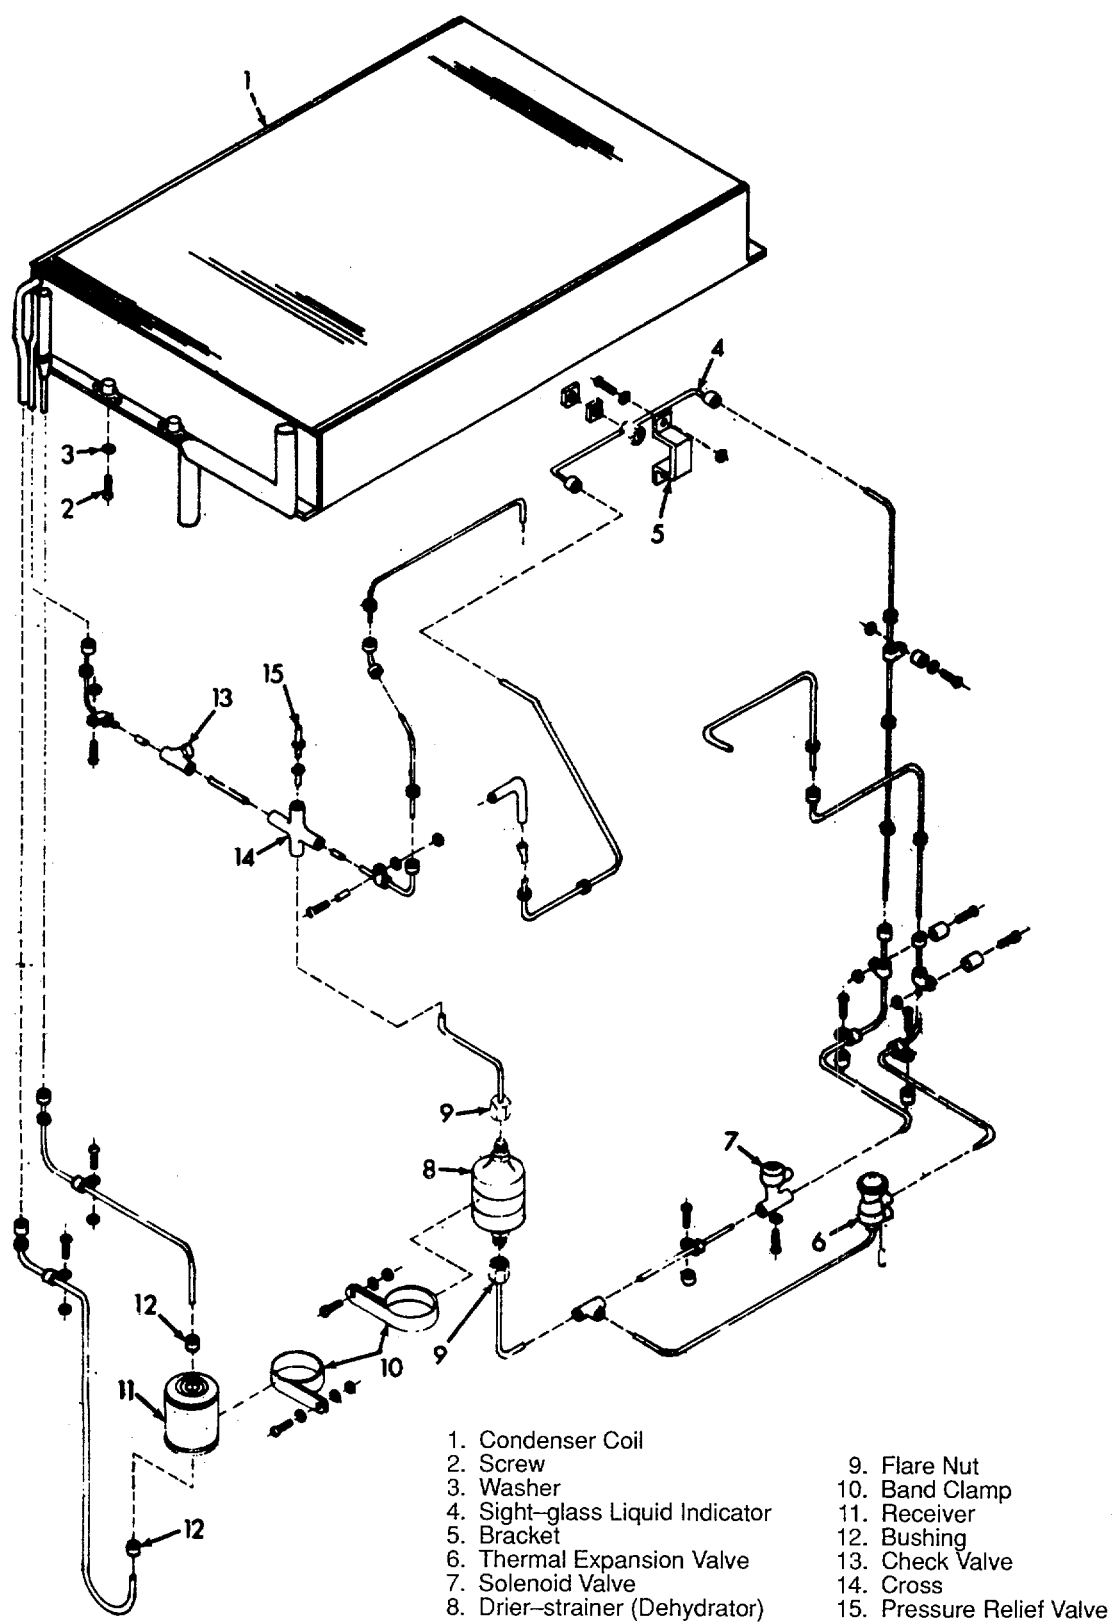

Figure 5-2. Condenser Section.
(3) With the air conditioner hoisted onto blocks, insert the bolts, steel washers and rubber washers through the compressor mounting bolt holds from the bottom of the base panel. Install another rubber washer and spacer (12) on the bolt from above.
(4) With the air conditioner on the floor, place the compressor assembly on a 2 x 4 or similar skid, and work it into position in the casing with the mounting feet over the shoulder bolts and the proper tubing connections made.
(5) Hoist the air conditioner onto blocks, and install the shoulder bolts (13) into the mounting feet of the compressor.
(6) Connect a cylinder of dry nitrogen to the suction service valve, open both service valves and the cylinder shutoff valve to establish a 1-2 CFM (0.5 -1 M3). Braze tubing connections.
(7) Replace the drier-strainer (dehydrator) as follows:
(a) **Unscrew top and bottom flare nuts (9, Figure 5-2) from drier-strainer (8).**
- (1) Facing the reset button sides of the pressure cutout switches, place the high-pressure switch (1, Figure 5-3) on the right-hand side of the low-pressure switch (4), and connect electrical lead (5, Figure 5-2) from terminal 1 of high-pressure cutout switch (1) to terminal 2 of switch (4).